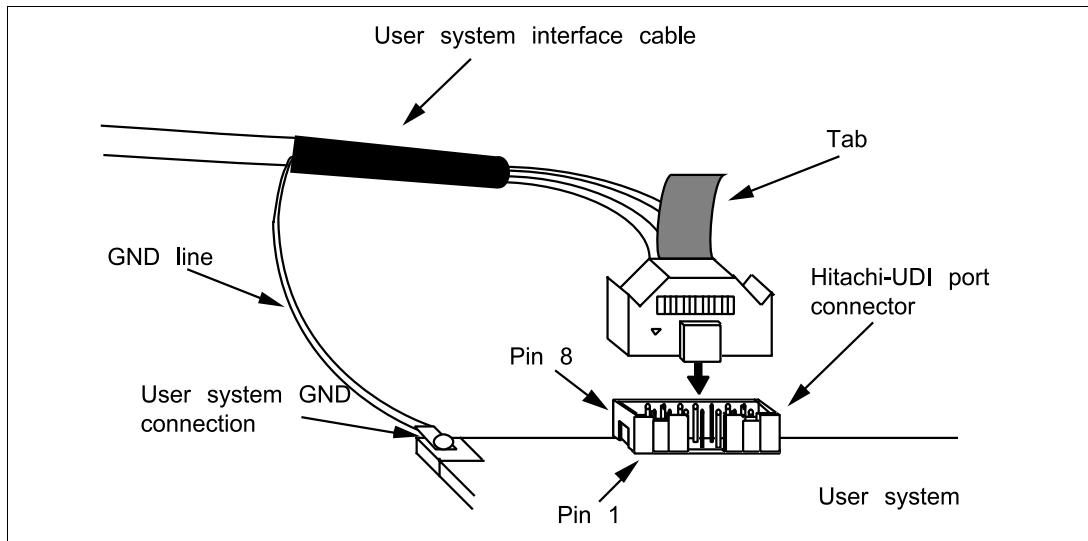

Figure 2.24 Connecting the User System Interface Cable to the User System when the 14-pin Straight Type Connector is Used
- (3) Figure 2.24 shows how to connect the user system interface cable to the user system when the 14-pin straight type connector is used. Connect the ground line of the cable to the user system ground. The end of the ground line has a hole having a diameter of 3 mm, and therefore, when the ground line is screwed to the user system, the screw diameter must be 3 mm.